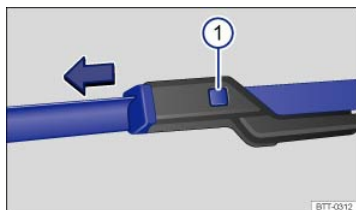

Fig. 204 Changing the windshield wiper blades.
- Press and hold the release button ⇒ Fig. 204①.